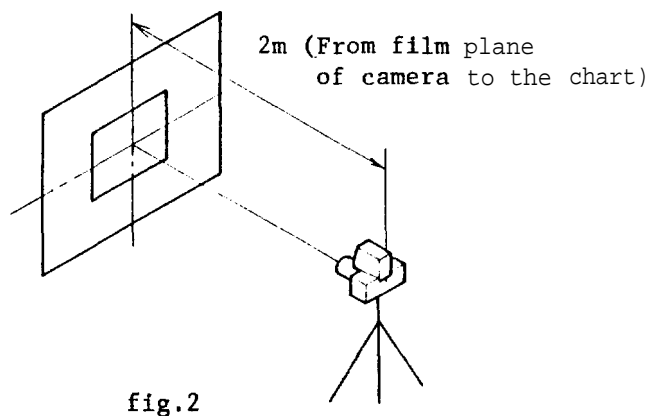

fig.3
2. The test chart should be focused and positioned visible in the viewfinder as shown in figure 3, p.16.